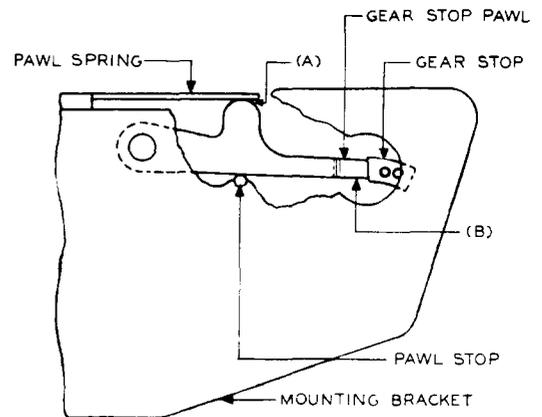

Fig. 9 - Gear Stop Pawl Position
- (c) Fig. 9(A) - With the timer gear moved slightly from its normal position and with the pawl resting against the pawl stop, the pawl spring shall touch the pawl.
- * (d) Readjust Only: Fig. 9(B) - The tension of the pawl spring shall be